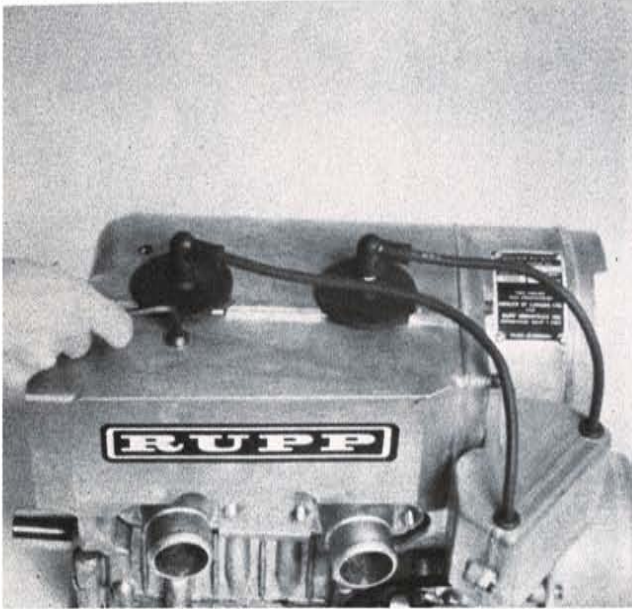

FIG. 7
4. Next remove air shrouds. Shrouds are secured by eight screws. (Fig. 7)